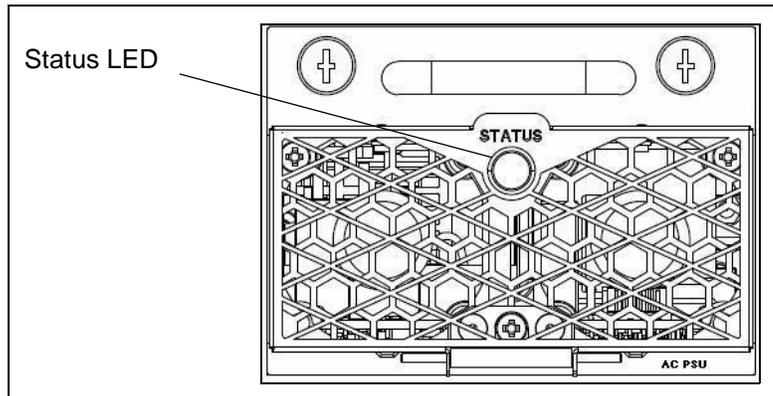

Figure 5.4 - AC PEM Status LED
11. Check the PEM Status LED (**Figure 5.4**) and take the appropriate actions as listed in **Table 5.2**.